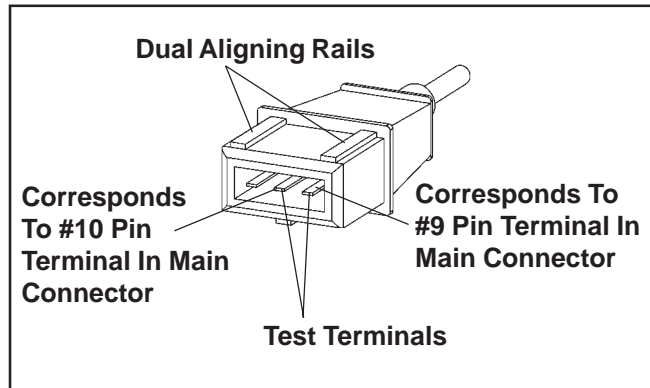

Figure 5B-4. Speed Sensor Connector.
6. Disconnect the speed sensor connector from the wiring harness. It is the connector with one heavy black lead (see Figure 5B-4). Viewing the connector as shown (dual aligning rails on top), test resistance between the terminals indicated. A reading of $750\text{-}1000 \ \Omega$ should again be obtained.